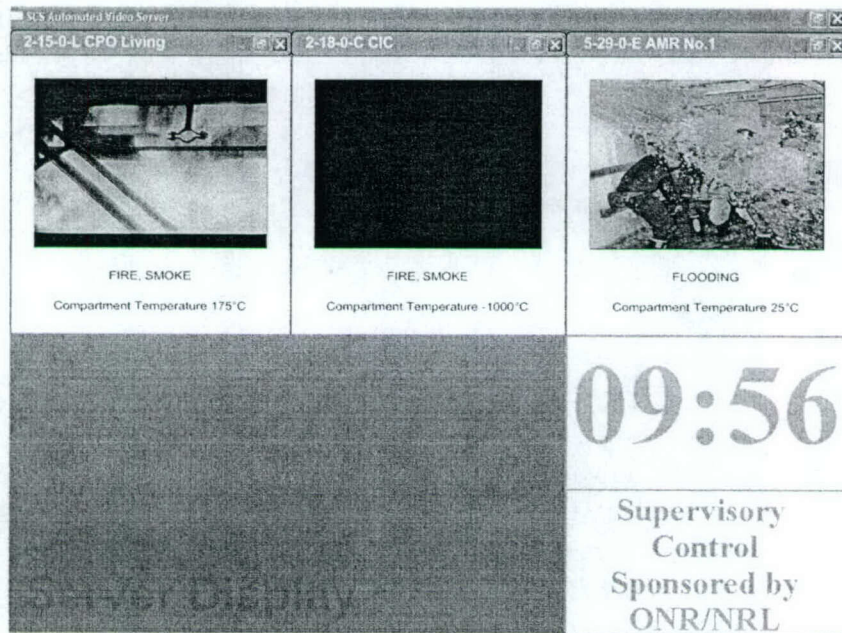

Figure 7-1. SCS Video Server
The Video Server Display is designed to manage the live video streams from cameras located throughout the ship. (See Figure 7-1.) The display has the capability to show five (5) simultaneous videos. There is a video hardware limitation of displaying one camera at a time from each of the distributed video collection boxes. The videos are posted along with a summary of relevant information. The video server selects key videos for the operator to see and the operator can add or remove any video. The operator has no user interface for this display but remotely controls the videos through the Compartment Context Menu for each compartment in the SCS Display. (See Section 5, SCS Display, “Compartment Context Menu” for more information.)